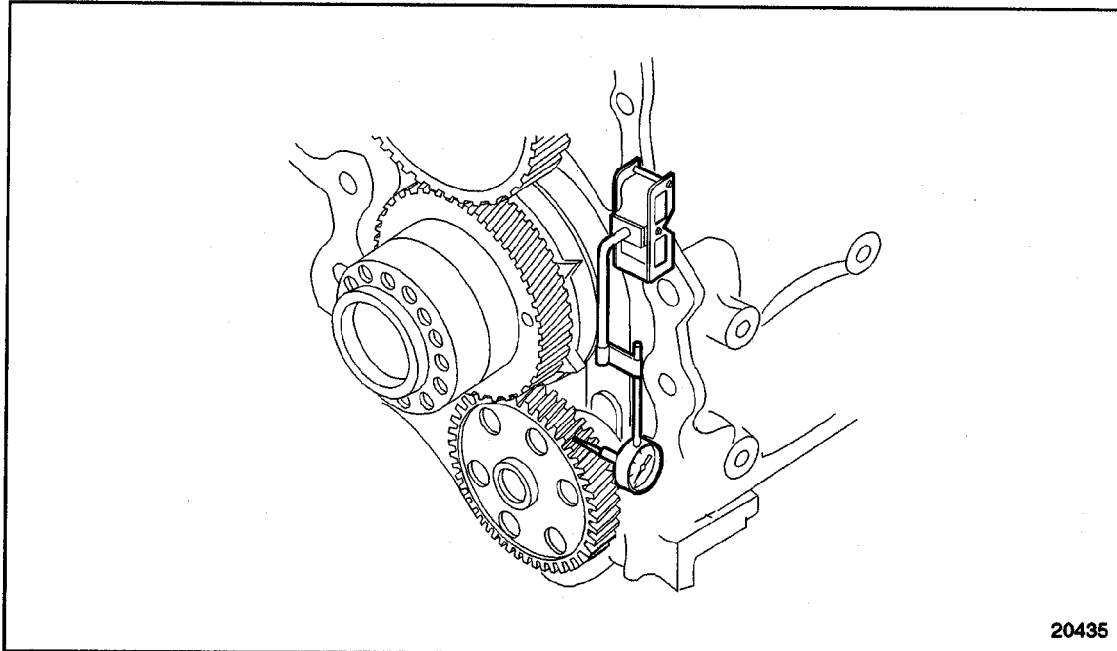

Figure 1-306 Crankshaft Timing Gear-to-Oil Pump Idler Gear Lash Measurement
- [a] Fasten a dial indicator and magnetic base to the cylinder block so that the stem of the dial indicator rests on a tooth of the oil pump drive gear. See Figure 1-306.
The lash between the crankshaft timing gear and oil pump drive gear must be measured with the engine in a running position. See Figure 1-306.